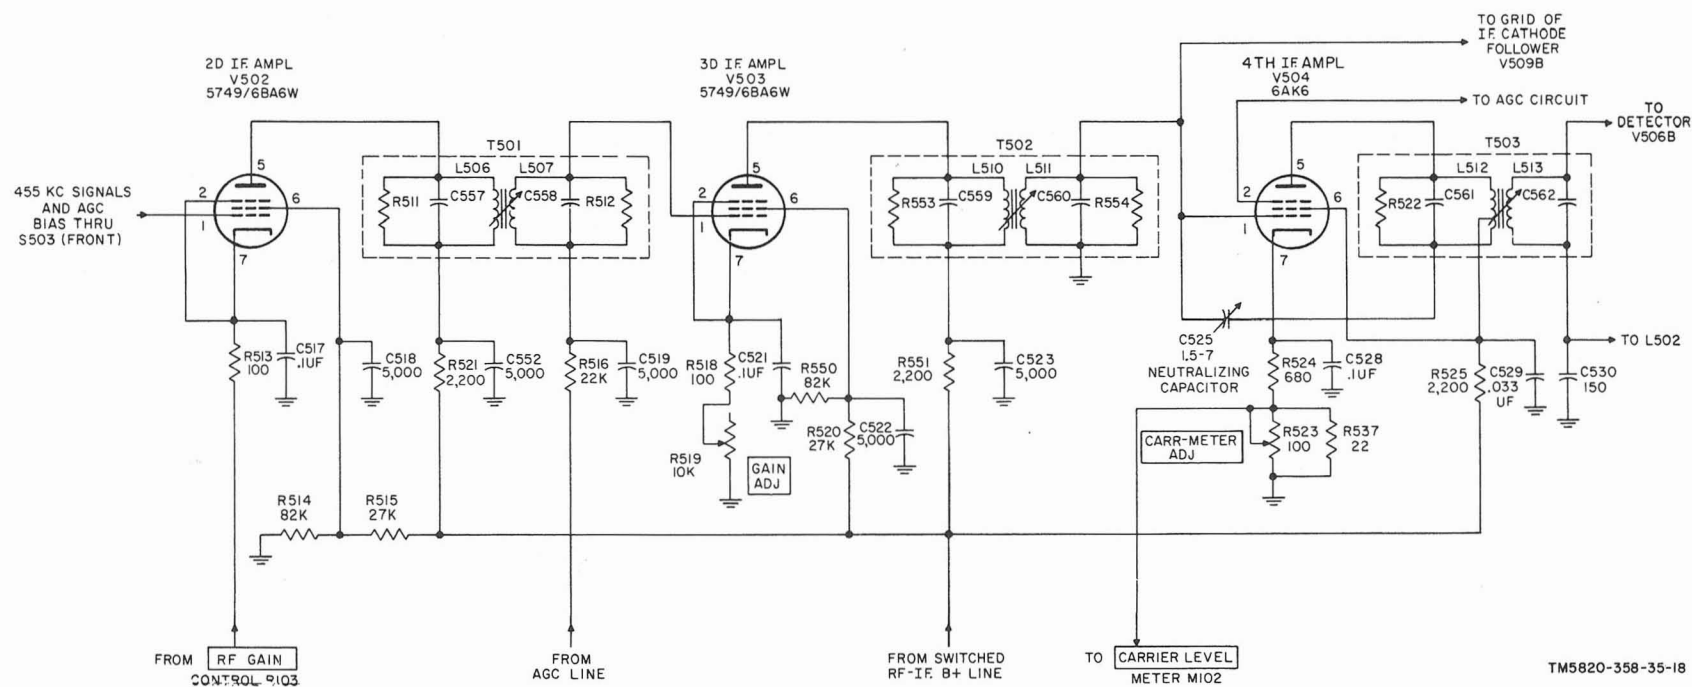

Figure 16. Second, third, and fourth if. amplifiers V502 through V504, simplified schematic diagram.
17. Second, Third, and Fourth If. Amplifiers (fig. 16)
a. Detector V506B is connected as a half-wave diode by connecting the control grid and plate together. The secondary winding (L513) of T503 (fig. 16) feeds the signal from fourth if. amplifier V504 to the detector. The diode load consists of resistors R527 and R526. To connect these load resistors to the stage, the jumper at DIODE LOAD terminals 14 and 15 on TB103 must be in place. Capacitor C530 and choke coil L502 are an if. filter used to remove if. signals from the detected audio.